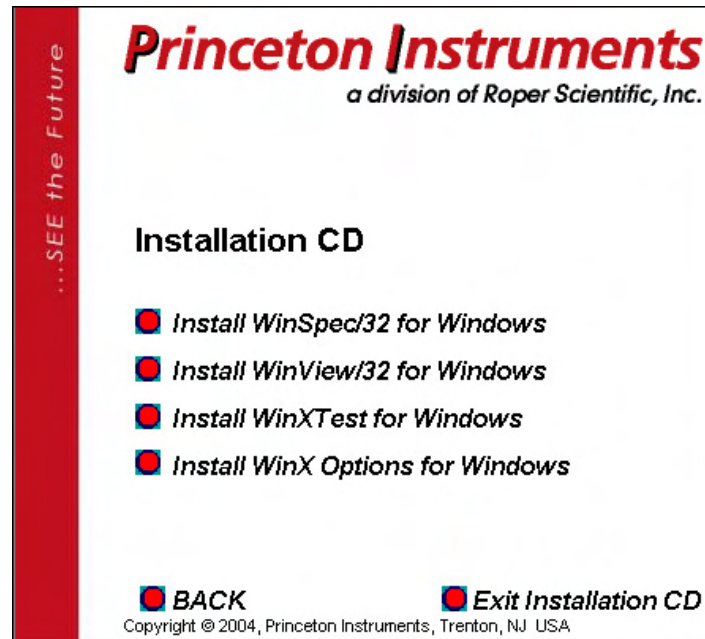

Figure 204. WinSpec, WinView, or WinXTest Selection dialog box
1. Start the installation program and on the **WinSpec, WinView, WinXTest Selection** dialog box (Figure 204), select **Install WinSpec/32 for Windows**.